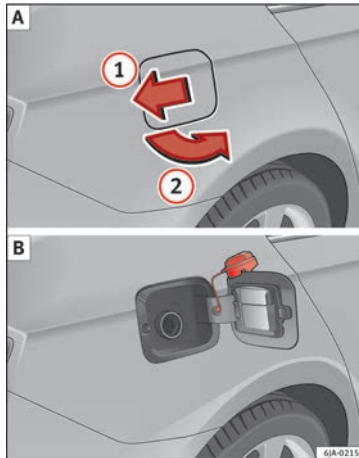

Fig. 48 Vehicle as seen from the rear right: fuel tank flap/fuel tank flap with tank unscrewed cap attached.
- Press the fuel tank flap in the direction of the arrow ① » » **Fig. 48 A** and open it in the direction of the arrow ②.
- Rest it on the upper part of the fuel tank flap » » **Fig. 48 B**.